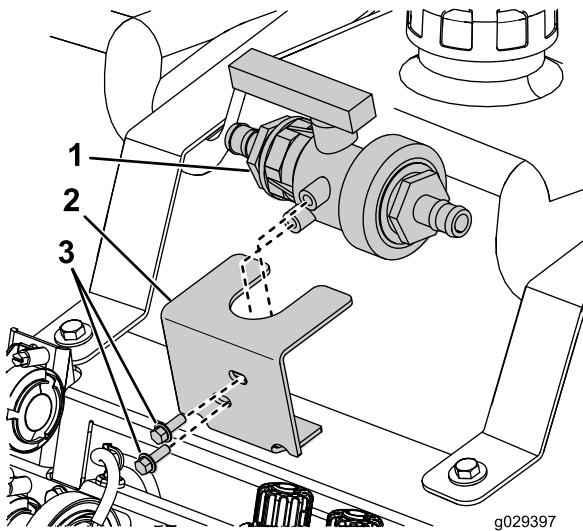

Figure 32
3. Install the valve-mounting bracket to the valve-mounting rail with 2 hex-head bolts (5/16 x 1 inch) and 2 flange nuts (5/16 inch) as shown in Figure 32.
4. Secure the ball valve to the valve-mounting bracket with 2 hex-head bolts (5/16 x 3/4 inch) as shown in Figure 32.